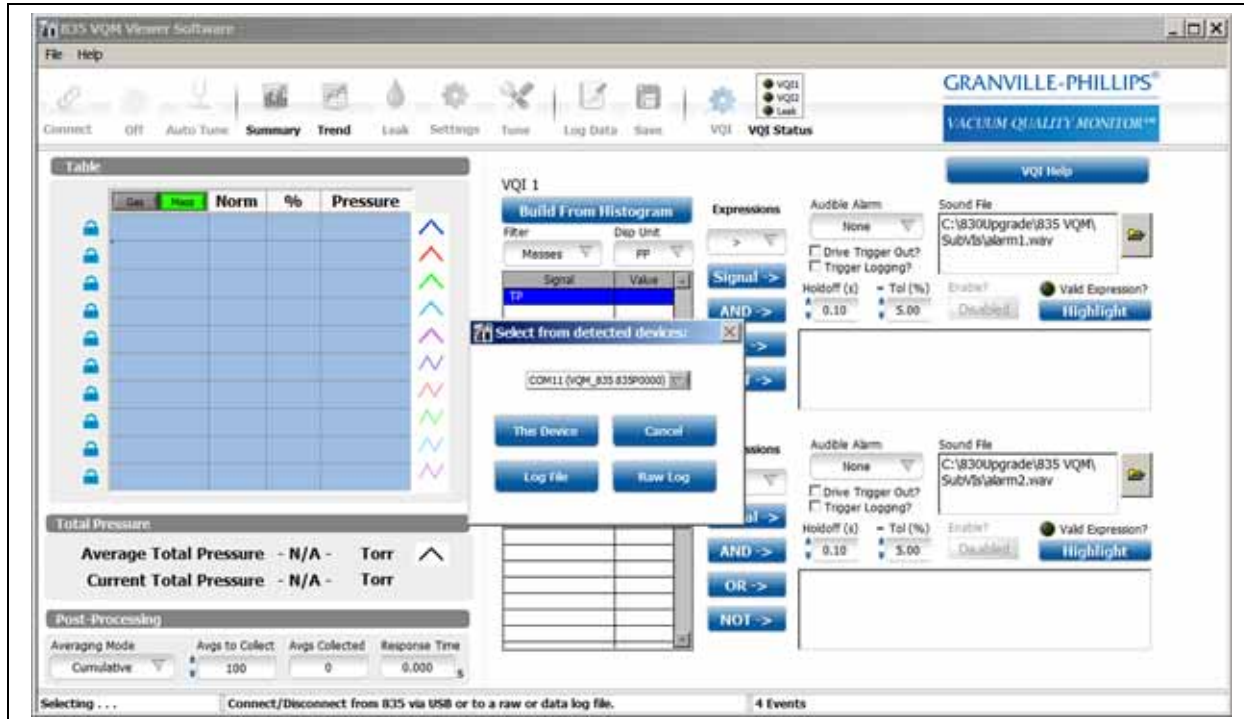

Figure 8-3 Initial Connection Screen
1. Click on the Connect icon on the Viewer Application display screen to activate the connection between the computer and the 835 VQM System. See Figures 8-3 and 8-4.